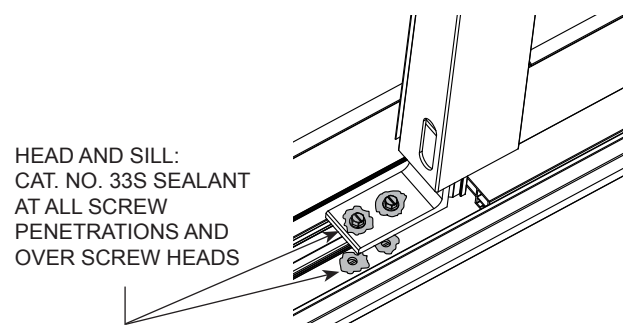

FIG. 22
6. Remove tape from fixed panel clips. Apply **Cat. No. 33S** sealant over bottom clip screw heads. Seal all screw penetrations in the bottom track during assembly. (FIG. 22)